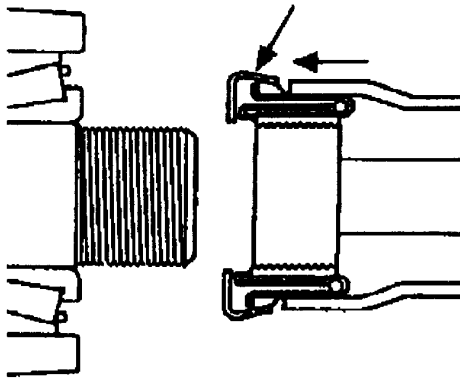

Figure 19 Release Locking Clips
2. The nut and retaining washer of the Axilok are locked together with two locking clips. Place the 4 inch standard 6 or 12 point socket over the hex feature of the nut to depress the locking clips, thereby releasing locking clips and allowing the nut to rotate freely within the retaining washer (Figure 19).